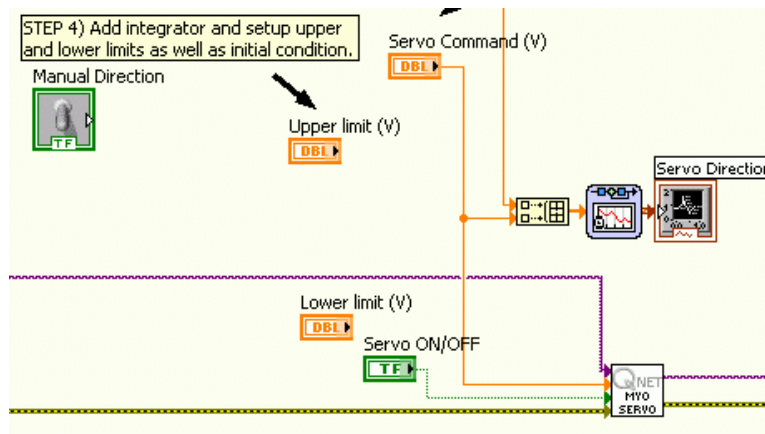

Figure 2.4: Add an integrator
8. Go to the block diagram section shown in Figure 2.4. Add an integrator and connect the signal from 7 into its input. Make sure to setup the lower and upper saturation limits of the integrator with the Upper limit (V) and Lower limit (V) controls. The initial condition should also be wired to the Lower limit (V). Attach an image of your block diagram.